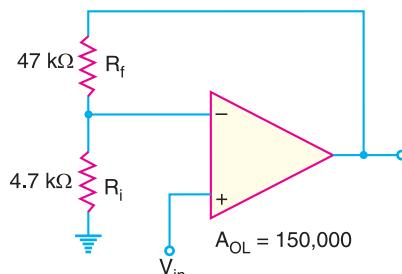

Fig. 25.102
9. Determine the closed-loop voltage gain for the circuit shown in Fig. 25.102.